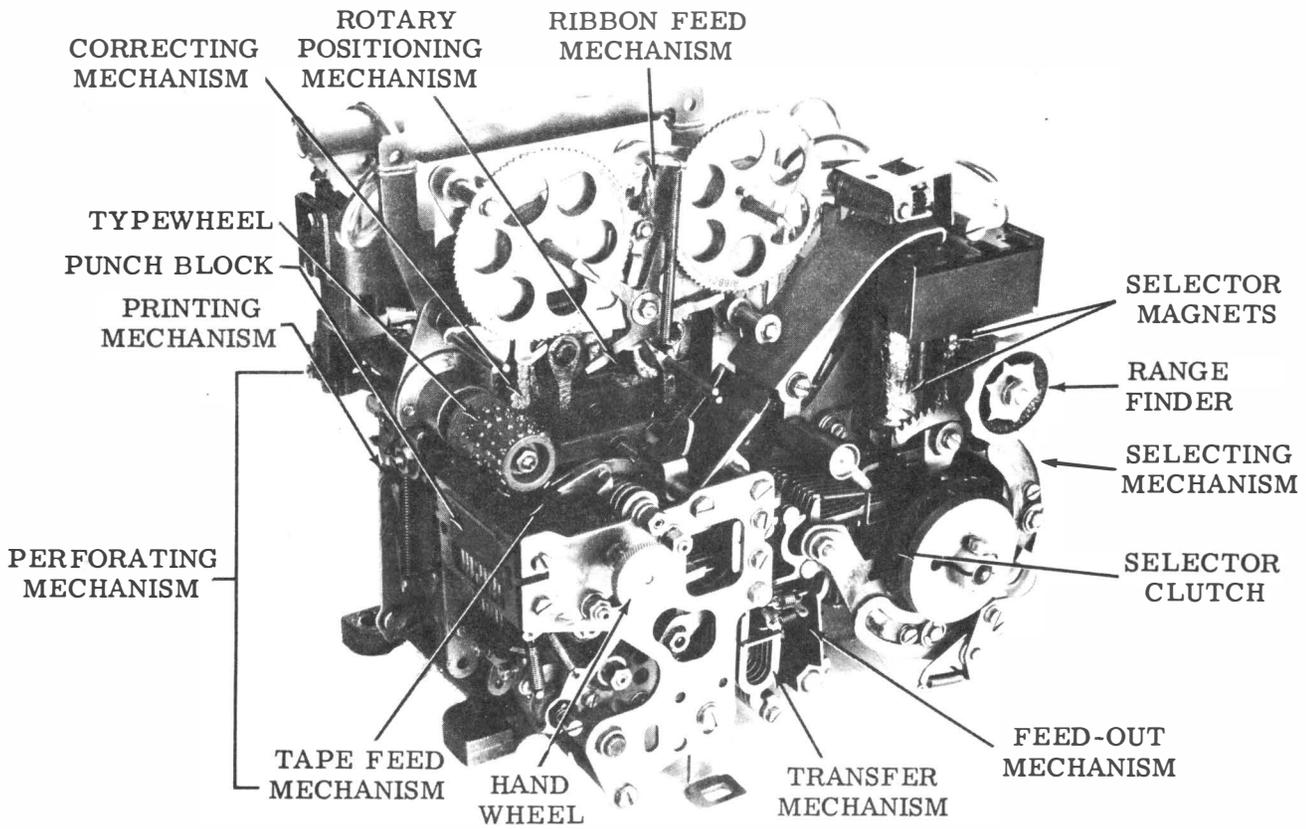

Figure 1 - Typical 35 Typing Reperforator (Left Front View)
1.02 Figures 1 and 2 illustrate the 35 typing reperformator. The technician should refer to the exploded views found in the appropriate parts literature for an illustration of the mechanism to be disassembled, for location and visual identification of parts and detailed disassembly and reassembly features.